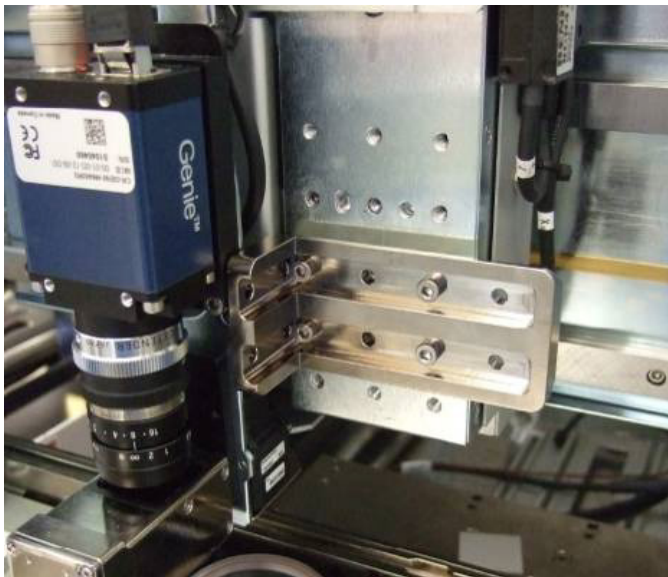

Figure 3-1 Tilt Bracket Mount (Right/Left)
1. If using a DV 7/8000 valve, install a mount spacer on the Z-plate with four (4) M4 socket head screws and a 3mm hex wrench (not shown). The spacer would be installed in the same place as the mount (Figure 3-1).
2. Install the mount with four (4) M4 socket head screws and a 3mm hex wrench (Figure 3-1).